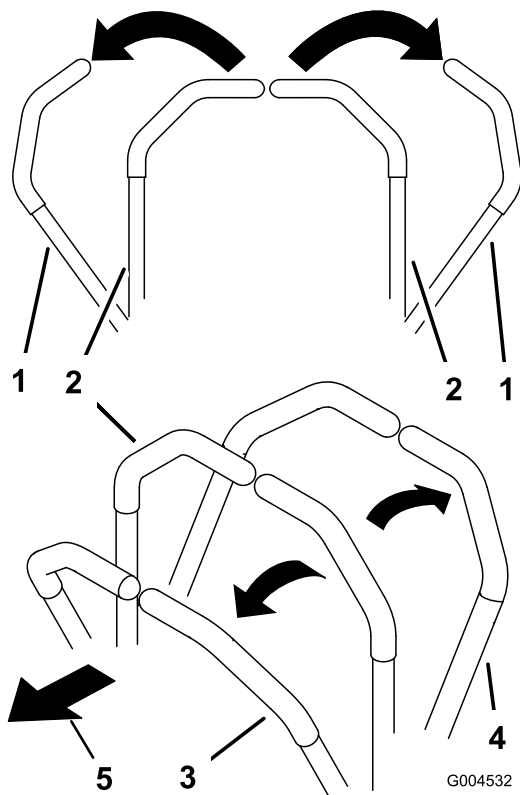

Figure 13
2. To go forward, slowly push the motion-control levers forward (Figure 13).
To go straight, apply equal pressure to both motion-control levers (Figure 13).
To turn, release pressure on the motion-control lever toward the direction you want to turn (Figure 13).